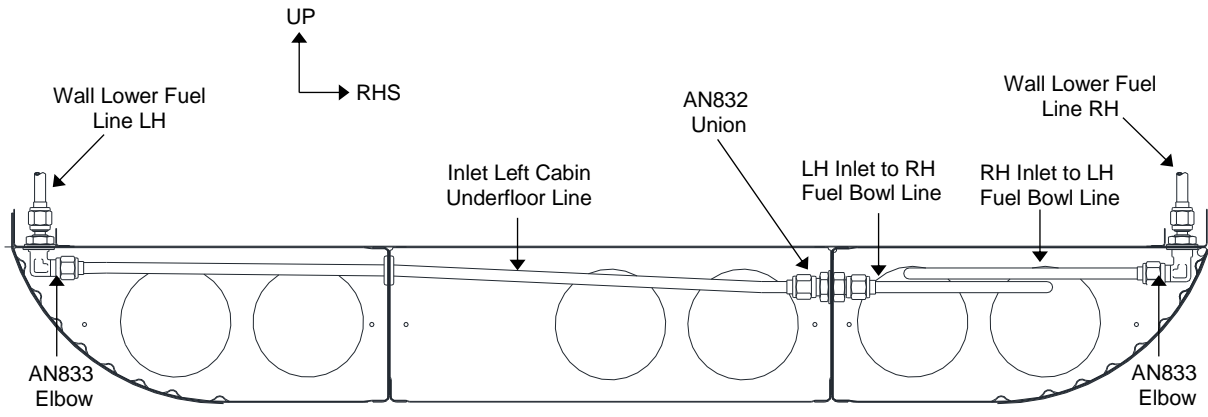

Figure 14: Fuel Lines - view looking forward toward Rib #6. (Mk II Fuel system shown, Mk I similar)
- 4) Disconnect the AN818 nut on the Inlet Left Cabin Underfloor Line (GA8-282013-109) from the AN833 Elbow fitting on the underfloor side of the RH Floor Attach Angle (GA8-533022-063) (See Figure 14).
- 5) Disconnect and remove the AN924 nut and the AN833 Elbow fitting from the GA8-533022-063 Floor Attach Angle (See Figure 14).
- 7) Disconnect the AN818 nuts from either side of the AN832 union at the RH Keel Beam penetration (See Figures 14 and 15).
- 8) Remove the LH inlet to RH Fuel Bowl Line (GA8-282013-107) (See Figures 14 and 15).
- 9) Disconnect and remove the AN924 Nut and AN832 union at the RH keel beam penetration (See Figures 14 and 15).
- 4) Disconnect the AN818 nut of the RH Inlet to LH Fuel Bowl Line (GA8-282013-105) from the AN833 Elbow fitting on the underfloor side of the RH Floor Attach Angle (GA8-533022-064) (See Figure 14).
- 6) Remove the RH Inlet to LH Fuel Bowl Line (See Figures 14 and 15).
- 7) Disconnect and remove the AN924 nut and the AN833 Elbow fitting from the RH Floor attach angle (See Figure 14).